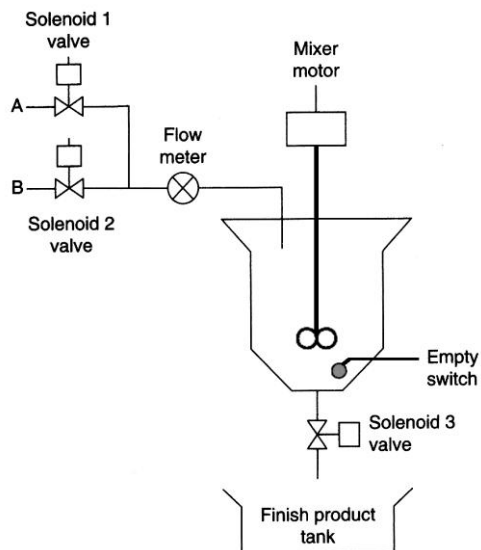

Figure 10-34 Process flow diagram for assignment 10.
10) Design a PLC program to implement the process of mixing two ingredients, A and B, as illustrated in Figure 10-34. The mixing cycle can be summarized as follows: